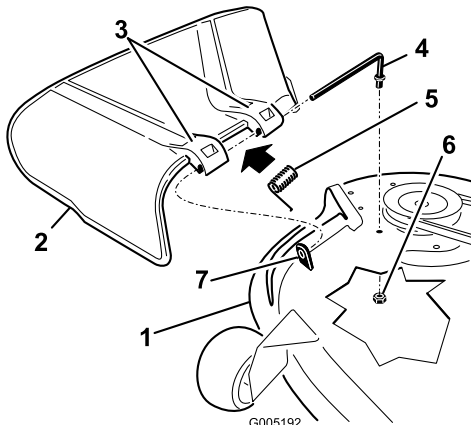

Figure 50
through second grass deflector bracket and internal lock washer (Figure 50).
7. Insert rod at front of grass deflector into short stand-off on deck. Secure rear end of rod into the mower with a nut (3/8 inch) (Figure 50).
1. Locate items shown in Figure 50.
2. Remove the nut (3/8 inch) from the rod under the mower (Figure 50).
3. Slide the rod out of the short stand-off, internal lock washer, spring, and grass deflector (Figure 50). Remove the damaged or worn grass deflector.
4. Replace the grass deflector and internal lock washer (Figure 50).